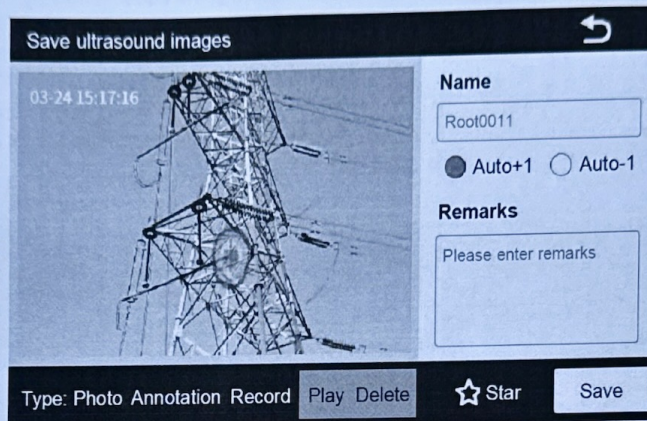

Figure 8: Data saving
- In the dialog box of saving acoustic image (as shown in Figure 8), tap the "Save" button to save the captured acoustic image. Image name can be changed and annotation can be added at the dialog box. Tap the "Save" or "Return" button at the dialog box to return to the main interface. In the saving interface, sound recording,